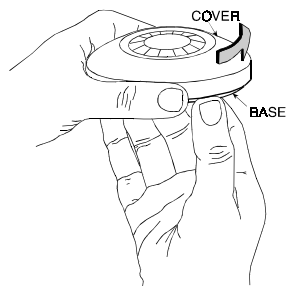

Figure 3 - Installing the Cover
D. Mount the base (equipped with the printed circuit board) in the location selected for optimum coverage. Using the two mounting holes at the back of the base fasten the unit firmly to the mounting surface to avoid possible vibrations. (Figure 3).